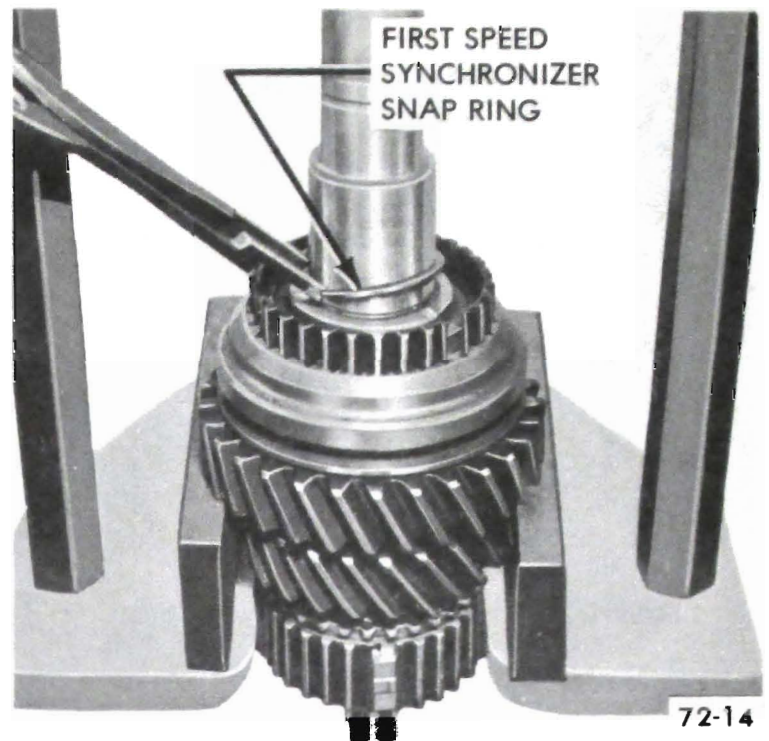

Figure 72-12 - Removing First Speed Synchronizer Snap Ring
5. Remove first speed synchronizer snap ring. See Figure 72-12.